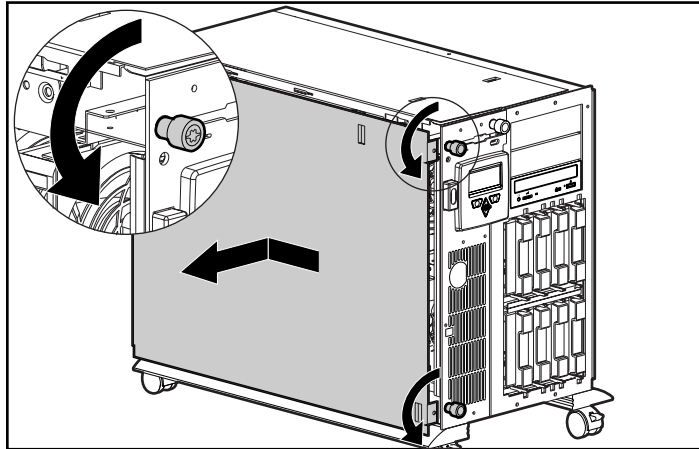

Figure 4-1. Removing the server cover
5. Loosen the top thumbscrew on the front of the unit using a T15 Torx driver. See Figure 4-1.
6. Loosen the bottom thumbscrew. See Figure 4-1.